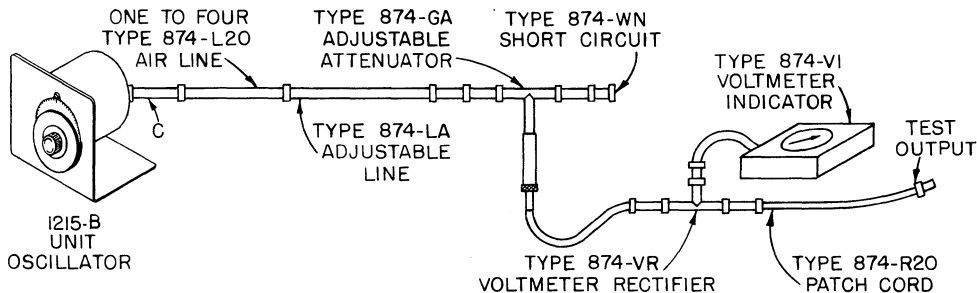

Figure 4. Connection Diagram,
3.2 UNIT OSCILLATOR AS A SIGNAL GENERATOR FOR RECEIVER TESTING. The Unit Oscillator, as a well-shielded power source, can be used as a signal generator for receiver testing if means are provided to measure and attenuate the output. A recommended arrangement of accessories is shown in Figure 4.
For complete coverage of the 50-250-Mc range, four sections of Type 874-L20 Air Line and a 20- $\mu\mu\text{f}$ fixed capacitor (C, Figure 4) series-mounted in a Type 874-X Insertion Unit are required. With these units the oscillator output can be tuned for maximum current in the center conductor of the attenuator to which the output loop is coupled.